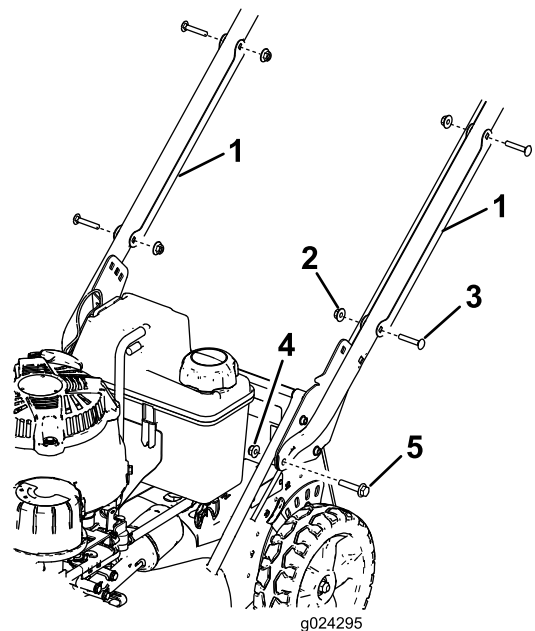

Figure 3
1. Remove the 2 cable guards from the handle (Figure 3) by removing the 2 carriage bolts and 2 locknuts that hold each cable guard to the handle.
inches) and 2 flange nuts (5/16 inch) as shown in Figure 3.
- Carriage bolt—5/16 x 1-1/2 inches (2)
- Handle bracket (2)
- Flange nut—5/16 inch (2)
- Position each cable guard onto the handle with the cable(s) inside the guard, and secure each to the handle with the 2 carriage bolts and the 2 locknuts that you previously removed (Figure 3).